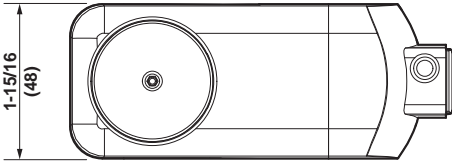

Figure 10. EN/ESZ3B2 and EN/ESZ3C2 Actuator Dimensions in Inches (Millimeters).
2. Turn the manual position indicator on the top of the actuator to the 0 position (Figure 10).
Check the wiring and the position indicator (Figure 10).